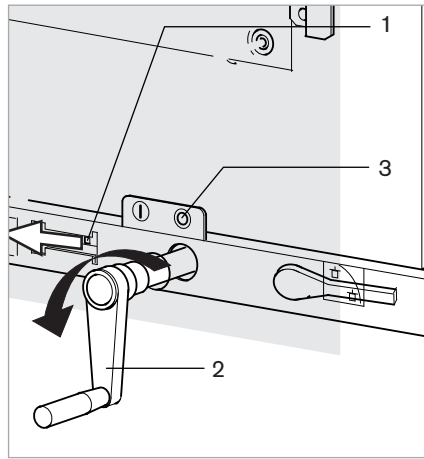

Fig. 39
1. Press the interlocking slide (Fig. 39, item 1) to the left and hold it. Insert crank through the opening in the door onto the drive shaft of the truck (2).
2. Turn crank counter-clockwise until the position indicator above the crank indicates "O" (Fig. 39, item 3). Remove crank.